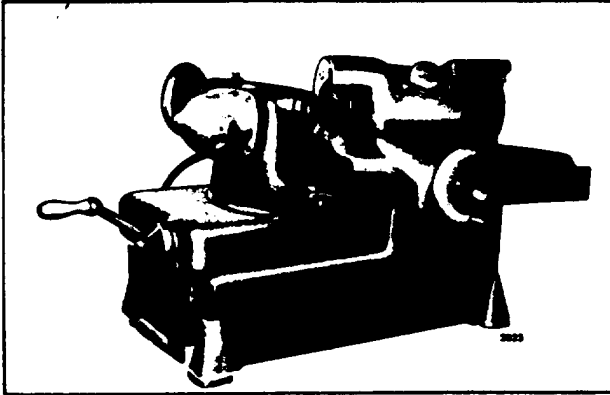
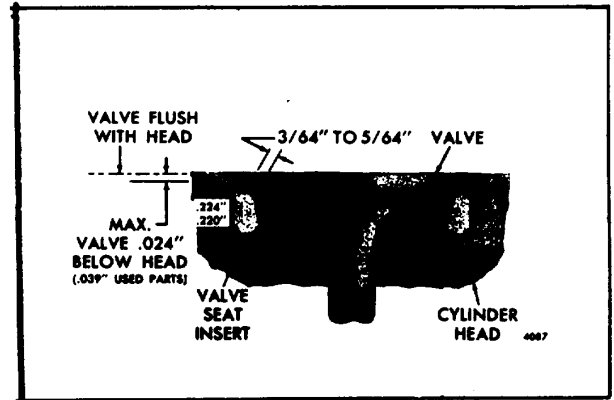

Fig. 9.- Refacing Exhaust Valve
Fig. 11. - Relationship Between Exhaust Valve, Insert and Cylinder Head
An exhaust valve which is to be reused may be refaced, if necessary (Fig. 9). To provide sufficient valve strength and spring tension, the edge of the valve at the valve head must not be less than 1/32" in thickness and must still be within the specifications shown in Fig. 11 after refacing.
3. Then grind the top surface with a 15° wheel to narrow the width of the seat from 3/64" to 5/64" (Fig. 11). The 30° face of the insert may be adjusted relative to the center of the valve face with the 15° and 60° grinding wheels.
The maximum amount that the exhaust valve should protrude beyond the cylinder head (when the valve is in the closed position), and still maintain the proper piston-to-valve clearance, is shown in Fig. 11
When installing exhaust valves, check to see that the valves are within the specifications shown in Fig. 11
9. Check the position of the exhaust valve (Fig. 11).